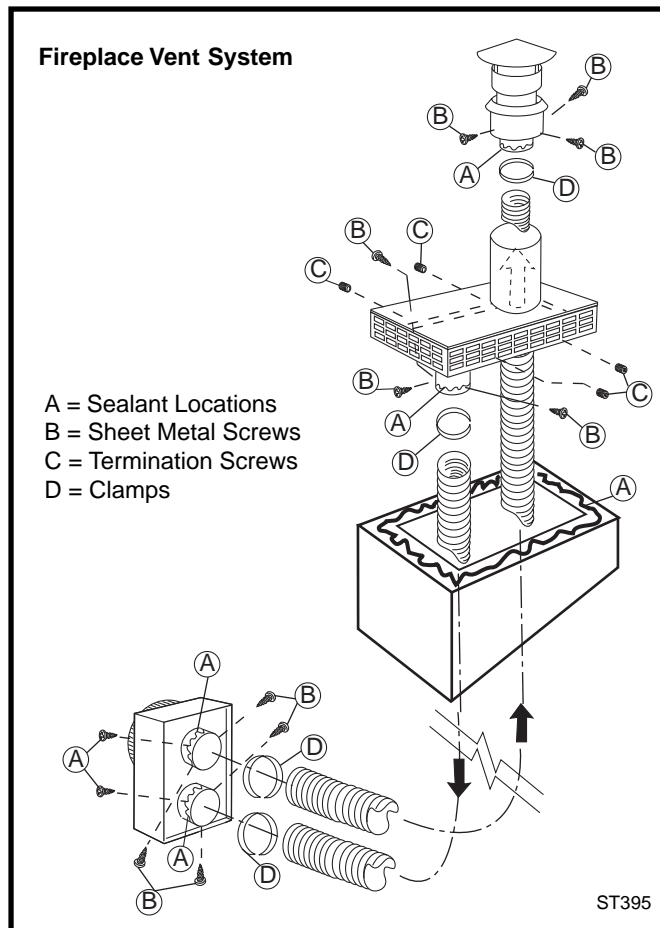

Fig. 35 Fireplace vent system installation.
NOTE: The collar extending down from the Termination base is the air intake collar. Use the flex vent liner, marked with a **blue line**, to connect between this collar and the *lower* flue collar on the Transition Connector. Also make sure the other flex vent liner is attached to the upper Transition Connector collar and the Rain Cap. (Fig. 35)
6. Apply high-temperature sealant to the top of the chimney. Feed the two liners down through the chimney flue and damper opening. Fasten the termination assembly to the chimney with the four set screws (C) provided.
8. Attach the flex liners to the Transition Connector, using high-temperature sealant and clamps as shown in Figure 35. Prop the connector in rough position until the heater is in place in front of it.